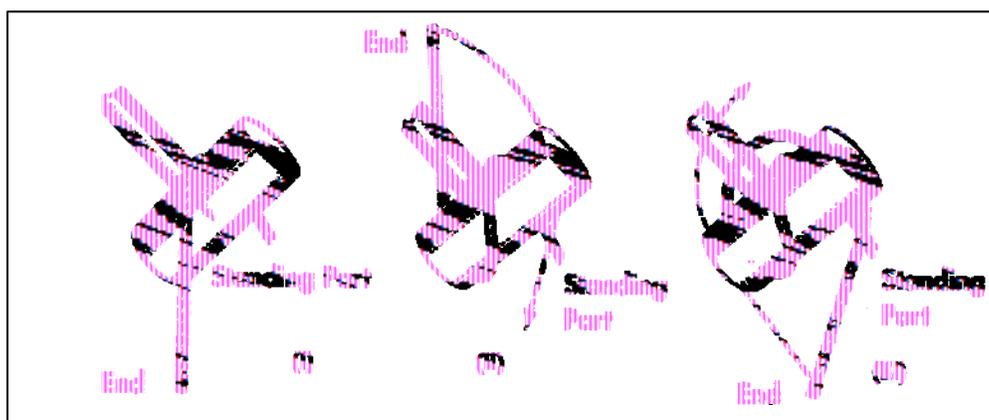

Figure 5.11-2 - How to Use a Serving Mallet
- (1) Lay the mallet in the bight of the line as shown in Fig 5.11-2 (i) and as close up to the work as possible.
- (2) Take a turn diagonally round the head of the mallet, bringing the end up the opposite side of the handle (ii).
- (3) Take half a turn around the handle, and take the end again behind the head (iii).
- (4) Jam the end between the head and the standing part, and bring it up over the handle, as indicated by the dotted line (iii).
- (5) Place the head against the rope and heave, using the handle as a lever.